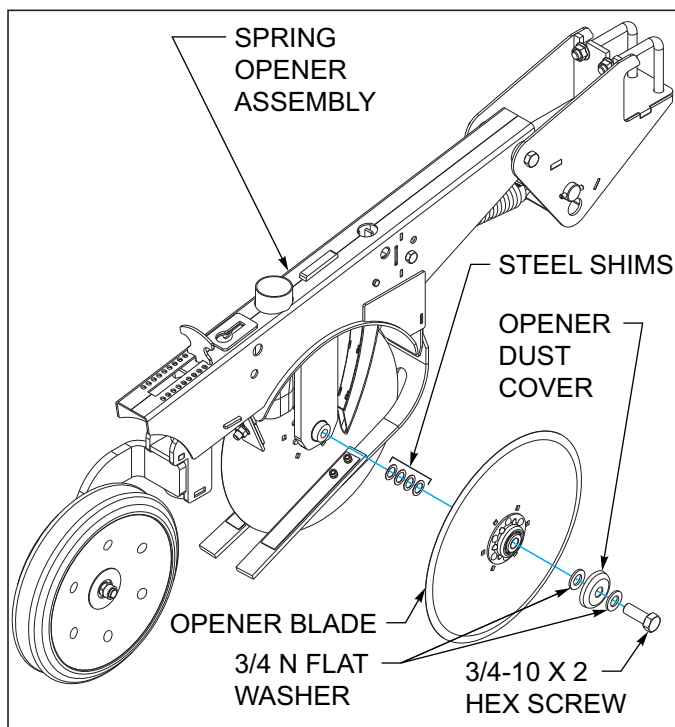

Figure 4-38: Opener Blade Adjustment
1. To insure peak performance of the opener assembly and maximum bearing life a proper opener blade pinch point should be maintained See Figure 4-38. The pinch point of the blades is the lower front point where the right and left opener blade come in contact with each other.
4. The pinch point is adjusted by adding/removing shims from between the opener blade and opener casting See Figure 4-38. When removing shim(s) from between the blade and the casting, move them to the outside of the blade and place under the dust cap. This will keep track of the shims and not change the length of bolt required. Adjust the shims as equally as possible so there are the same number of shims under the right and left blades.